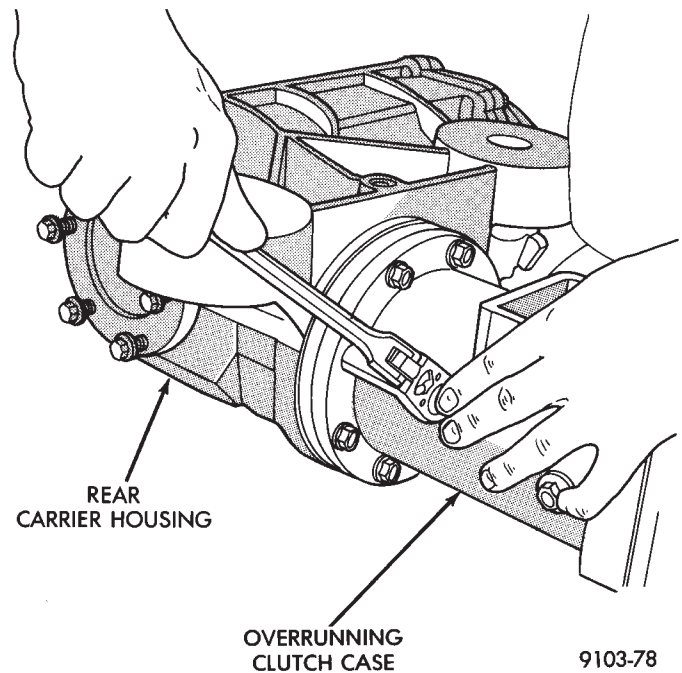
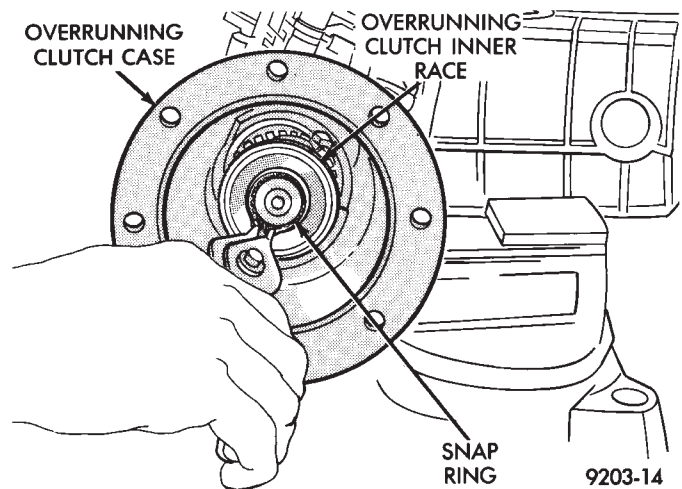
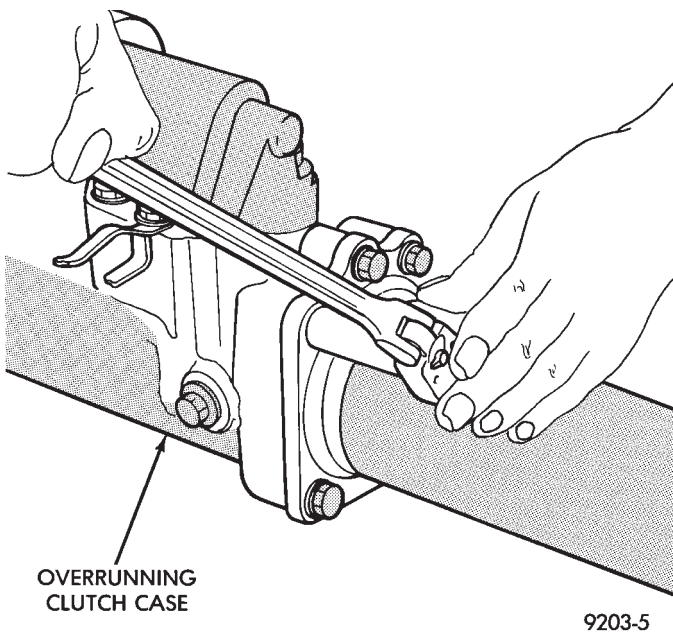

Fig. 19 Overrunning Clutch Case to Rear Carrier Bolts
Fig. 20 Inner Race Snap Ring
Fig. 21 Torque Tube Bolts
- (1) Remove rear drive line module assembly.
- (2) Remove overrunning clutch cover assembly.
- (3) Drain fluid from overrunning clutch case.
- (4) Remove overrunning clutch case to rear carrier case bolts (Fig. 19).
- (5) Separate the overrunning clutch housing from the rear carrier housing.
- (6) Remove overrunning clutch inner race snap ring (Fig. 20).
- (7) Slide overrunning clutch inner race off of the shaft.
- (8) Remove dog-clutch snap ring and slide dog-clutch off of the shaft.
- (9) Remove torque shaft rear bearing snap ring.
- (10) Remove torque tube retaining bolts (Fig. 21).